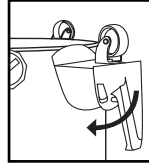

FIGURE 8
12. Apply pressure to front of hose holder to snap into place. **FIGURE 8.**